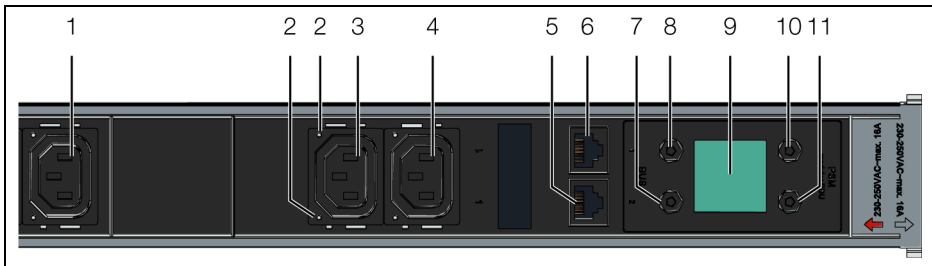

Fig. 4: Control and display elements and connections
The control and display elements are shown in fig. 4. The direction of display and the assignment of the four keys at the side next to the display depends on the installation direction of the PSM measurement module. The key to fig. 4 shows the key assignment for the installation case where the slots of the PSM measurement module are located underneath the display. Depending on the orientation of the PSM busbar, the assignment of keys 6 and 7 and 9 and 10 will change accordingly. The current assignment of the keys is shown on the display.
Regardless of the direction of installation, the numbering of the individual slots in the measurement module will **not** change. Slot no. 1 is always the slot located directly underneath or above the display (fig. 4, item 3).
- Connect the PSM measurement module to the CMC III Processing Unit or to the adjacent components in the CAN bus using a CAN bus connection cable (fig. 4, items 4, 5).
- Connect other PSM measurement modules which are installed in the same PSM busbar e.g. using the CAN bus connection cable included with the supply (fig. 4, items 4, 5).